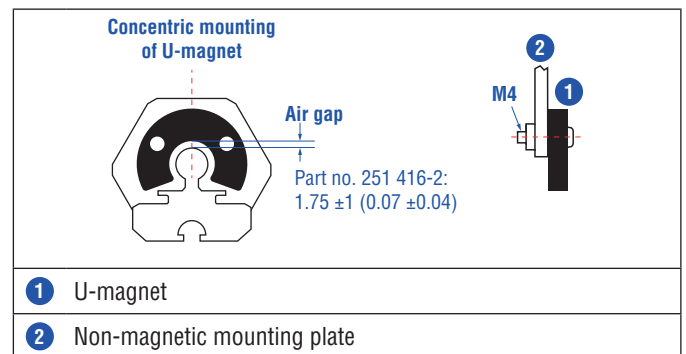
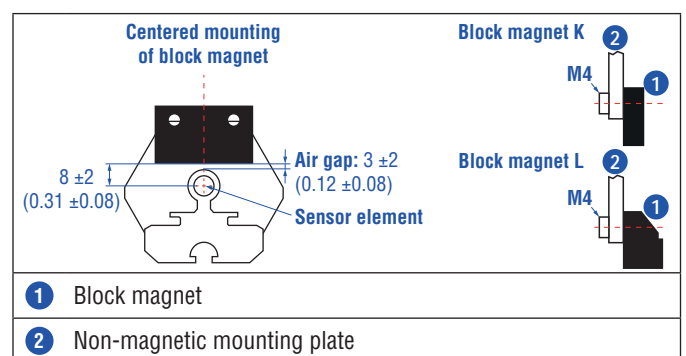

Fig. 37: Mounting of U-magnet (part no. 251 416-2)
Fig. 38: Mounting of block magnet K (part no. 251 298-2) and block magnet L (part no. 403 448)
- Mount block magnets centrically over the sensor rod or the sensor profile. The maximum permissible air gap must not be exceeded (Fig. 37/Fig. 38).